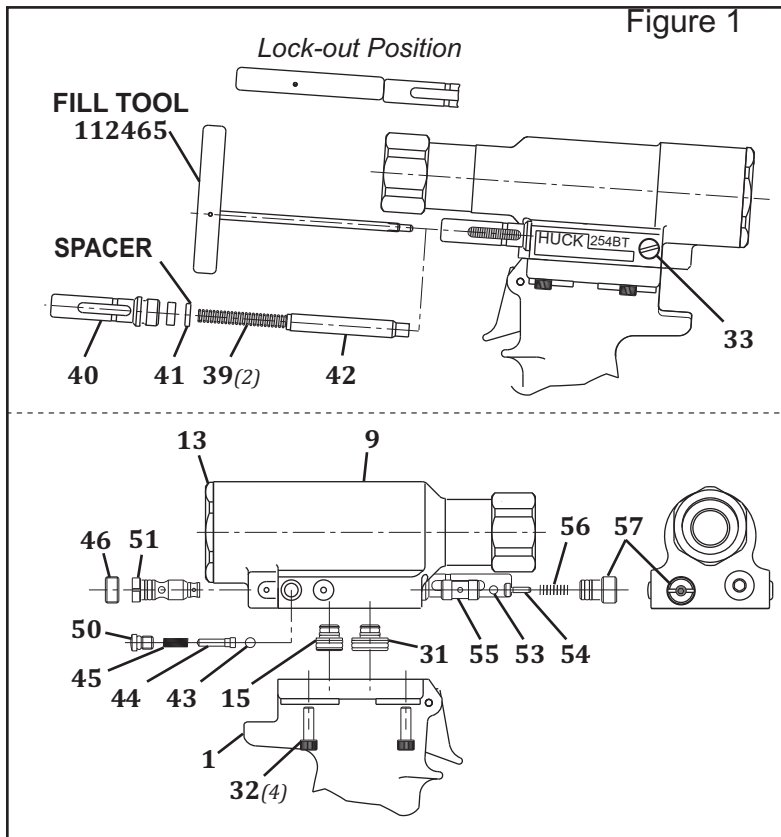

Figure 1
6. Unscrew Bleed Plug (33). Hold over waste oil container and release fill tool slowly. Figure 1
7. Unscrew Reservoir Housing (40) from head. Remove two Springs (39). Slide Reservoir Plunger (42) from head. Remove spacer and Quad Ring (41). A pick may be used to remove the quad ring. Figure 1
8. Unscrew Plug (50) of reservoir check valve from side of head. Remove Spring (45), Check Valve Guide (44) and Stainless Steel Check Valve Ball (43). Figure 1
3. Insert Fill Tool part no. 112465 through reservoir housing and screw into Reservoir Plunger (42) locking it in the out position. Figure 1
4. Unscrew Cap Screws (32) with 5/32 hex key. Carefully lift Head (9) straight up from Handle (1), remove Pull Gland Assy (31) and Return Gland Assy (15) from separated Head and Handle assembly. Remove seals from glands. Figure 1
5. Unscrew Plug (57) of return Pressure Relief Valve from front of head. Remove Spring (56), Valve Guide (54), Sleeve (55) and Steel Ball (53). A small magnet is helpful. Figure 1
16. Remove Bleed Plug (33) from handle. Figure 1
16. Install O-ring (48) & Back-up Ring (47) on Plug (57). Install Ball (53), Valve Guide (54), Sleeve (55), Spring (56) and Plug (45) into head. (Fig. 1 & 9)
17. Install O-ring (49) on Plug (50). Install Check Valve Ball (43), Check Valve Guide (44), Spring (45) and Plug (50) into head.